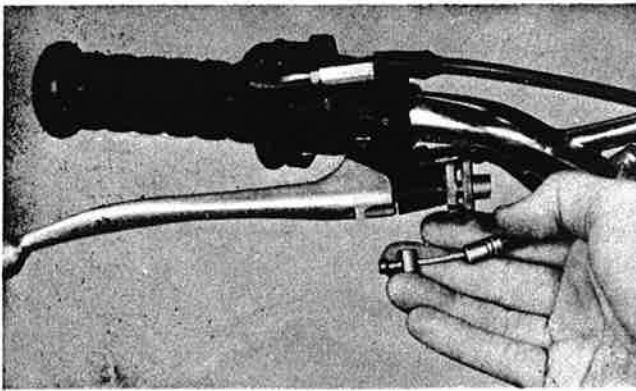

Fig. 5-1-1
1. Disconnect the brake cable at the front brake lever. (Fig. 5-1-1)